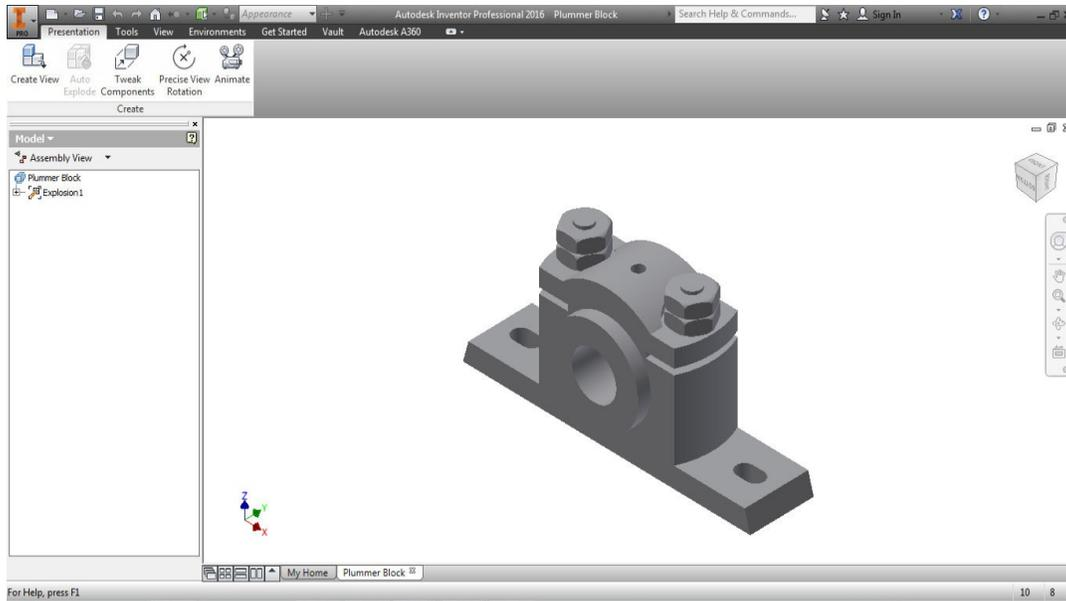

Figure 13-15 Presentation file after creating the presentation view
- b. Open a new metric presentation file and create a new presentation view by using the **Create View** tool, refer to Figure 13-15.
The presentation view is created and the current view is changed automatically to the isometric view. The file after creating the presentation view is shown in Figure 13-15.
If the presentation view is not the same as shown in Figure 13-15 then you can change the orientation of view using the ViewCube.